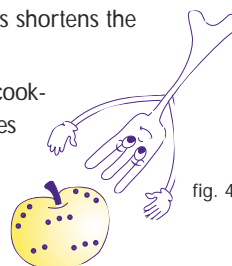

fig. 4
- 4) **Foods with a skin, shell or peel (e.g., apples, potatoes, tomatoes, frankfurters, fish) must be pierced with a fork or sharp knife in several points so as to allow steam to escape and prevent exploding.** (see fig. 4)